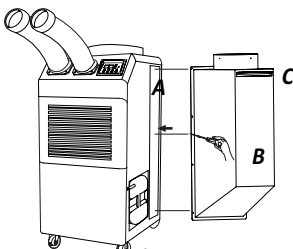

Figure 7
3. Install "B" which contains "C" by using driver with enclosed bolts(6EA) as Figure 7.